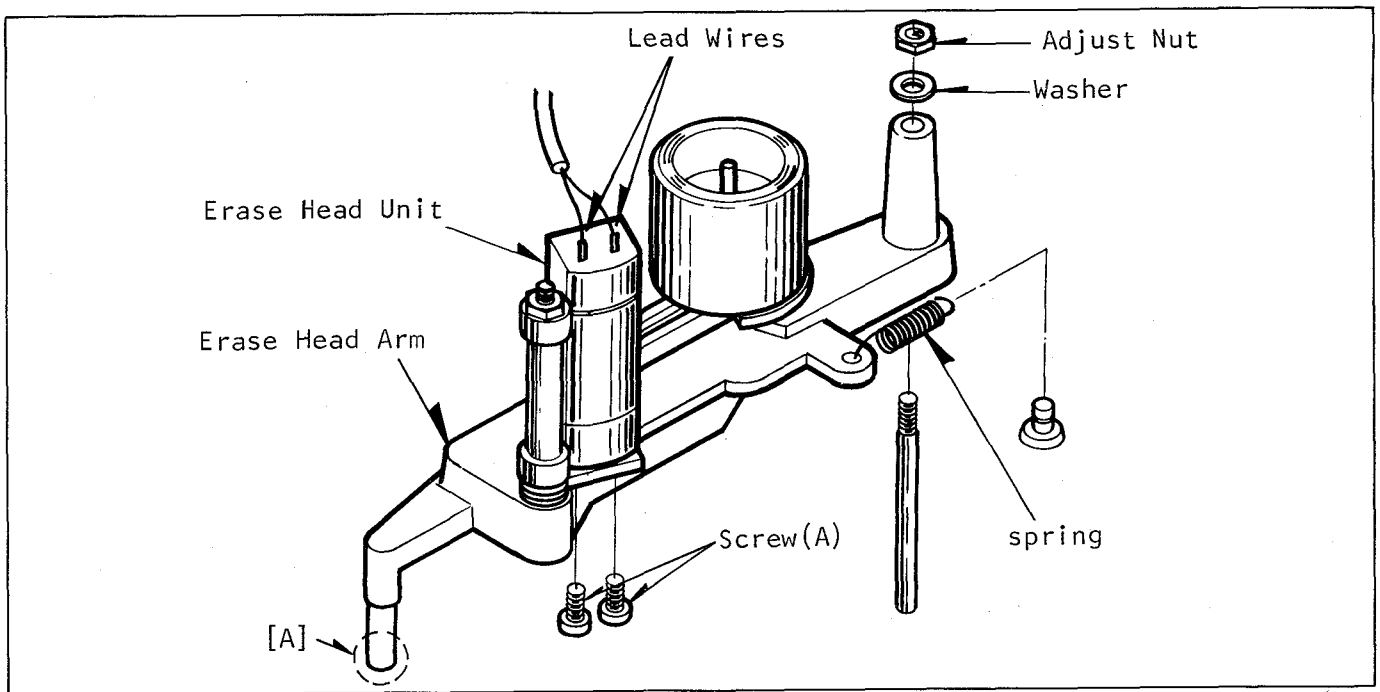

Fig.M26. Erase Head Arm
4. Adjust the height of the Erase Head Arm so that the Loading Base fits on the V-shaped groove correctly by turning the Adjust Nut as shown in the Fig. M26.